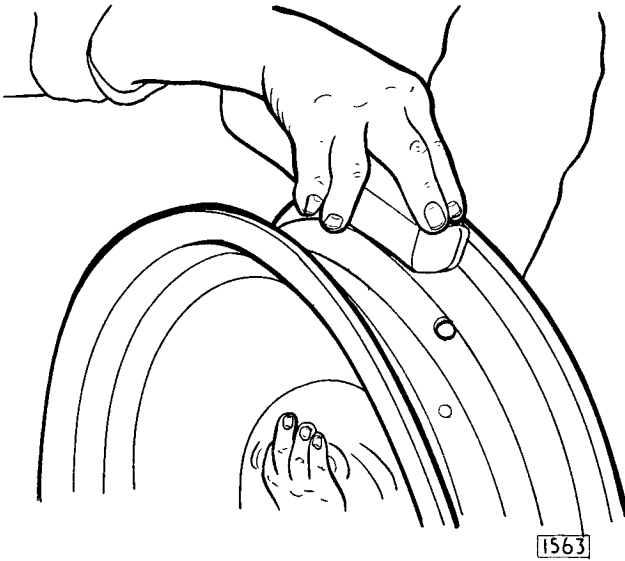

Fig. 16. Removing irregularities from rim.
3. Clean the rim bead seats and flanges thoroughly. Use emery cloth, steel wool, a wire brush or a file, depending on the amount of dirt, rust, rubber and surface irregularities to be removed. (Fig. 16.) Smooth paint need not be removed.